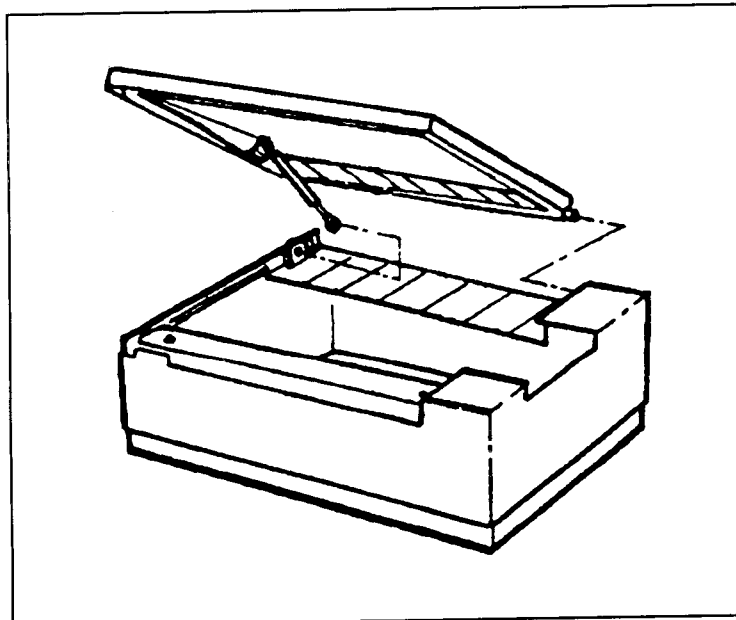

Figure 5-6. Removing the access door from the top cover.
- a. Remove the printer access door from the top cover as shown in Figure 5-6 (see NOTE above).